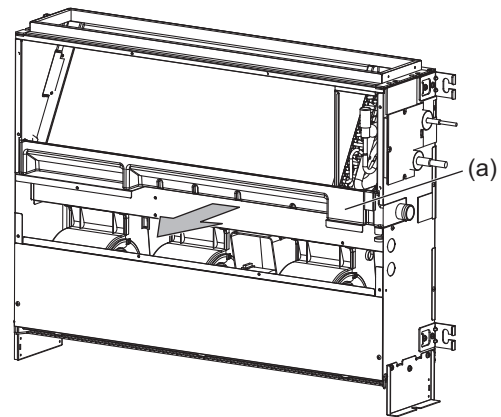

Fig.12
- (1) Drain the water out of the drain pan before removing it.
- (2) Pull out the drain pan in the direction of the arrow. (Fig.12)